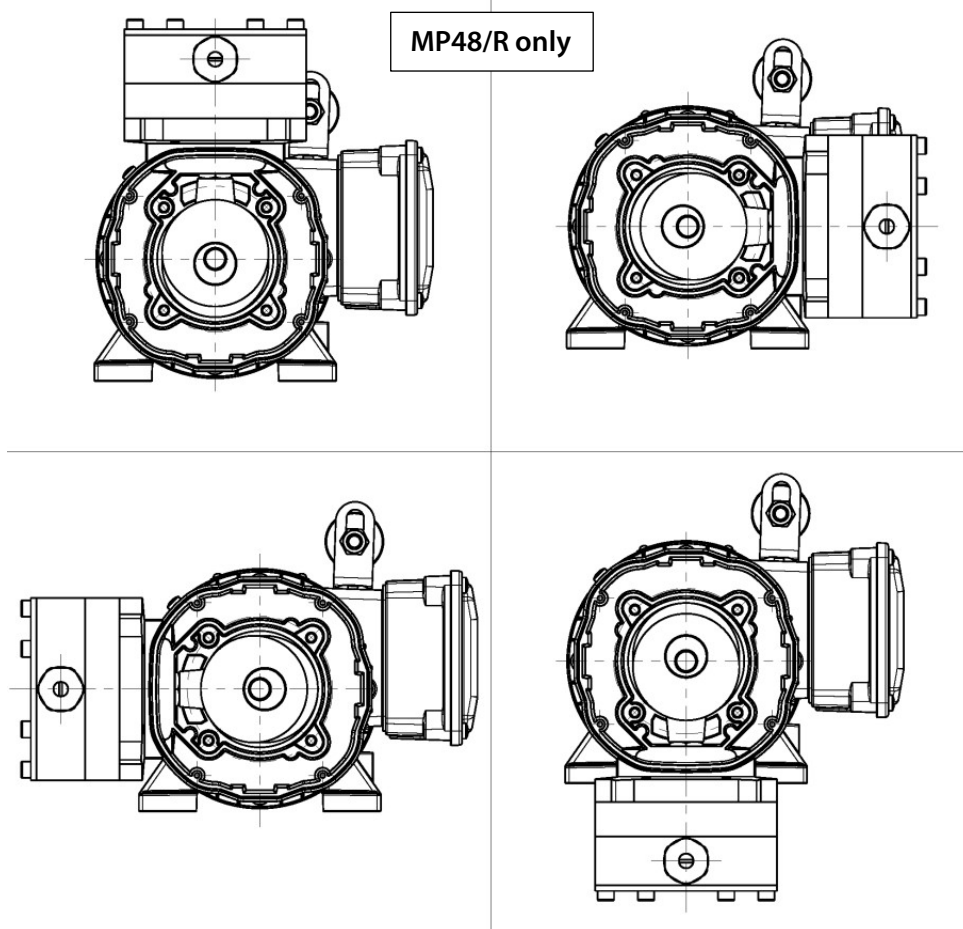

Figure 11 MP48/R: Mounting positions of the compressor housing
4. Rotate the housing to the required position. The compressor housing can be rotated completely around its own axis in 90° increments in relation to the motor (see Figure 11).